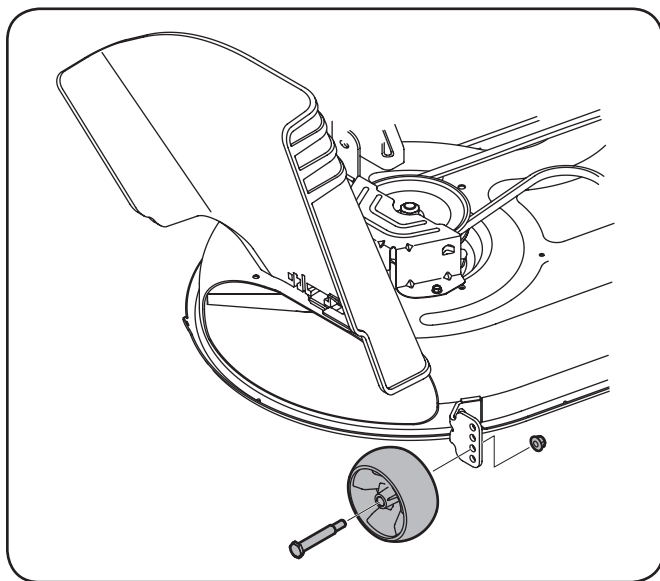

Figure 3-7
- b. Remove the front and rear gauge wheels by removing the lock nuts and shoulder screws which secure them to the deck. See Figure 3-7.